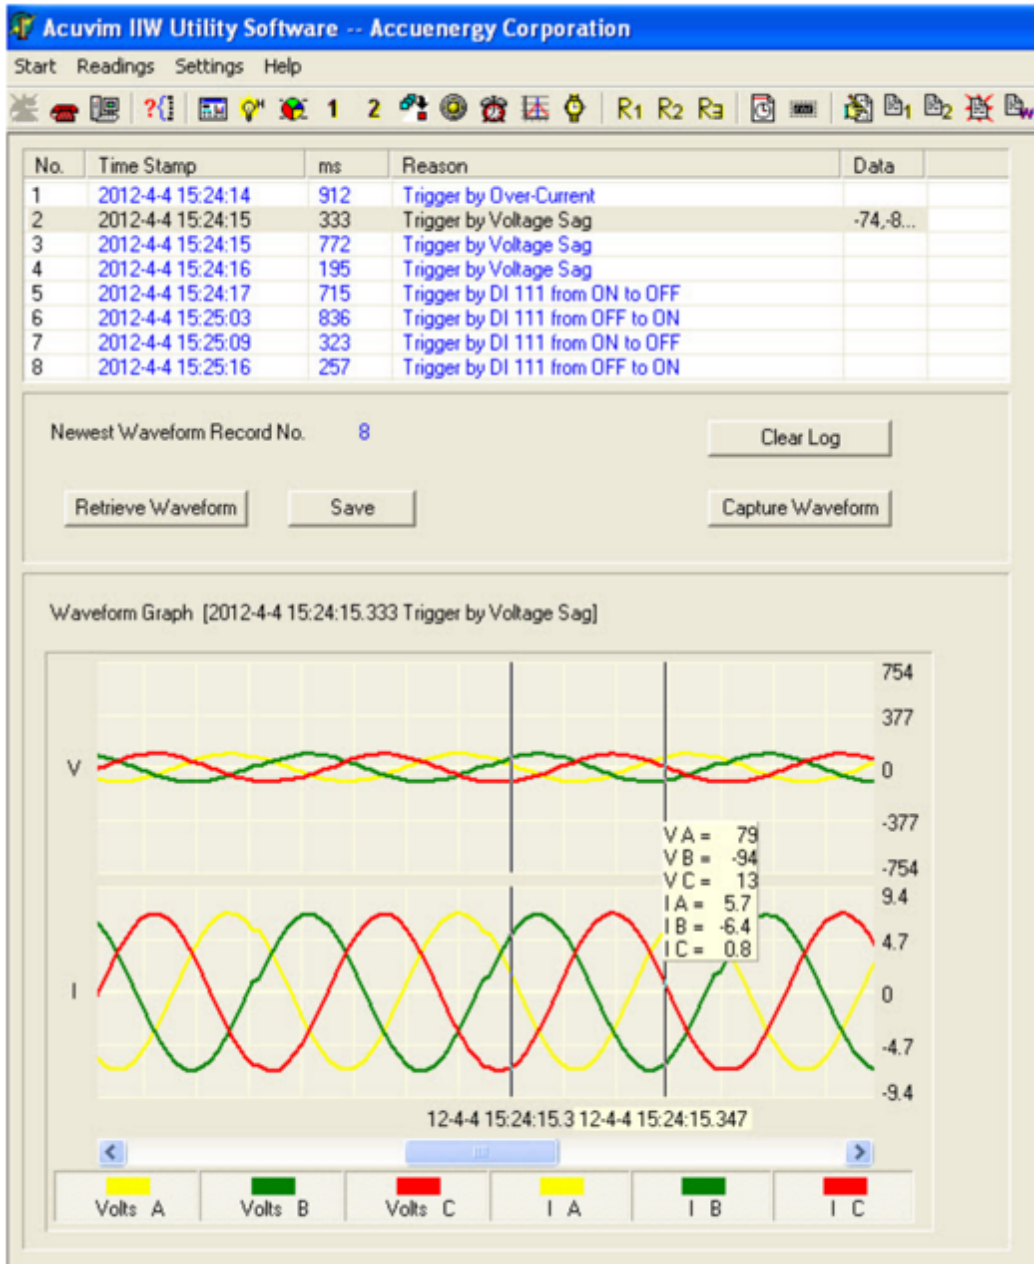

Fig. 4-14
3) 100mV(Rope-CT): $\text{Real Value (Unit: A)} = \text{Waveform Value} / K$ (firmware above 3.21, $K=20291.1$; firmware 3.20, $K=22068.8$, other: $K = 15869.87$); 4) mA CT: $\text{Real Value (Unit: A)} = \text{Waveform Value} / K$ (80mA CT: $K=7414.289$; 100mA: $K=9267.440$; 200mA: $K=18514.68$); The voltage and current value obtained from the waveform are the PT or CT secondary side value. The waveform capture retrieve page is shown in Fig 4-14.